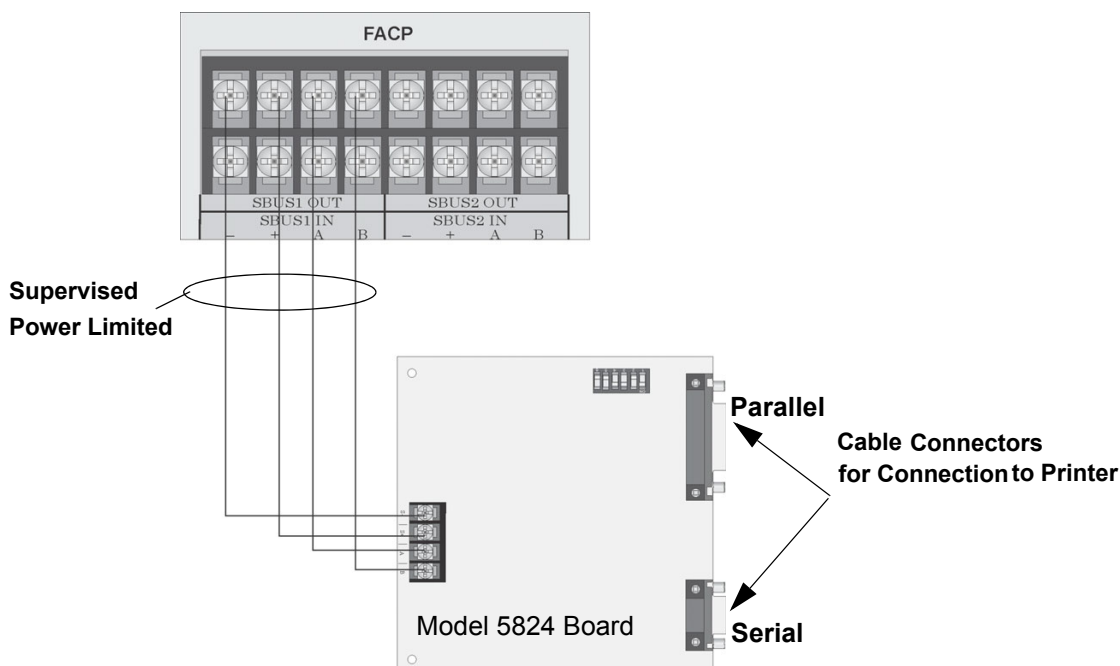

Figure 4.35 5824 Connection to the Panel
2. Connect the 5824 to the FACP as shown in Figure 4.35.